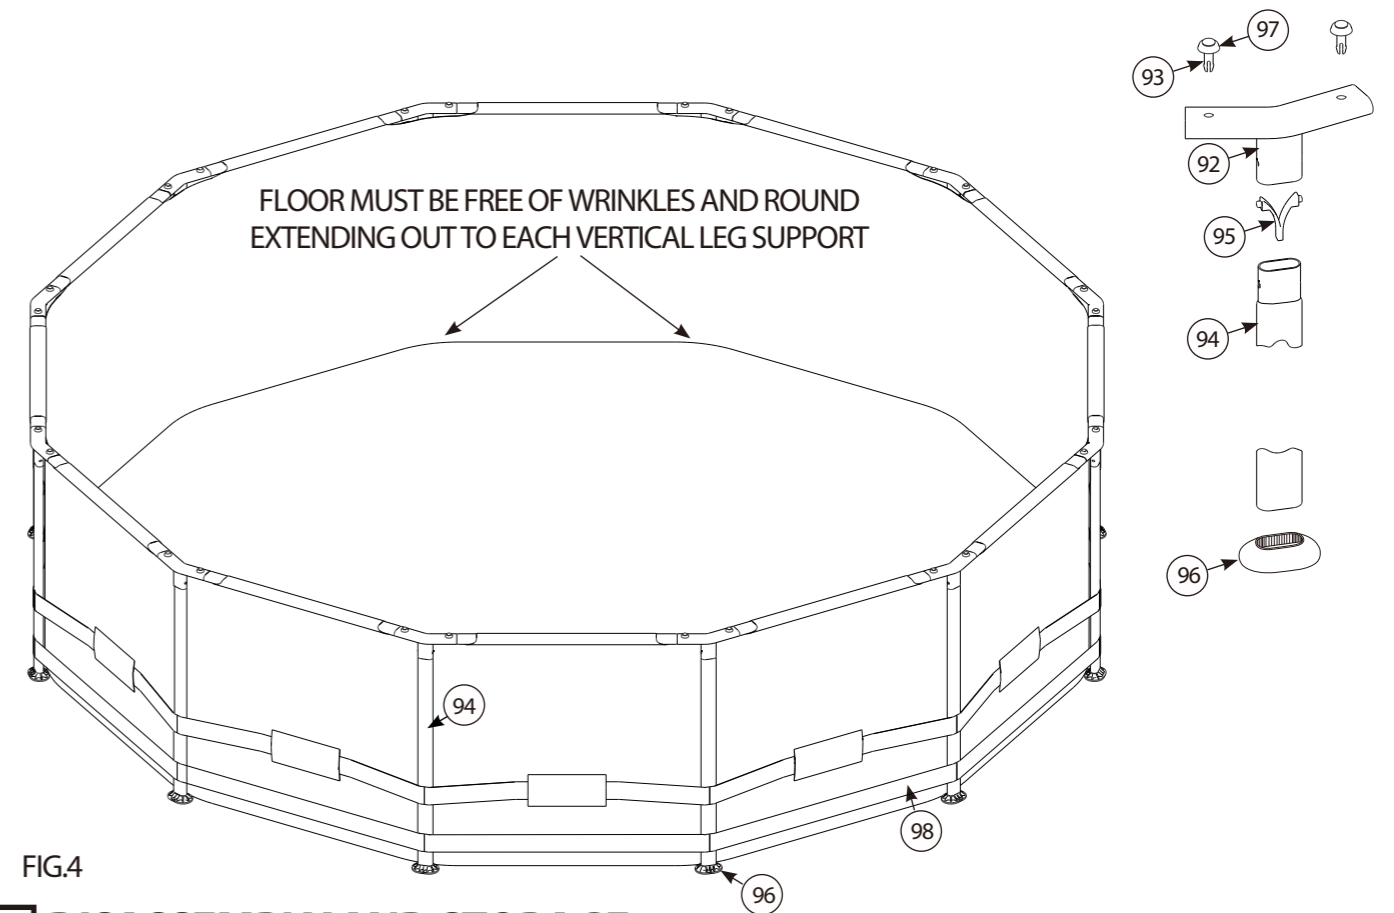

FIG.4
D. Once the top frame is assembled, locate the Vertical Legs (94). The Vertical Leg sections will have a Spring Pin (95) pre-installed at the top end. First, insert the leg down through the belt that runs around the middle of the pool, see Fig. 4. Now, to connect them into the top frame, push the buttons in as you insert the Leg up into the Tee Fitting. Look through the hole in the Fitting as you insert and rotate the pipe until the buttons align with the holes and pop out, locking the leg in place. Finally, take one of the Leg Caps (96) and insert the bottom of the Vertical Leg into it until it stops.
F. Place the Strap Ring (98) on top of pool frame and slide it all the way down to the Leg Caps (96).
NOTE: AFTER ABOUT 1-INCH OF WATER IS ON THE BOTTOM, STOP FILLING AND SMOOTH WRINKLES OUT OF THE BOTTOM OF THE POOL MAKING SURE THE POOL'S BOTTOM IS FLAT AND ROUND EQUALLY IN ALL DIRECTIONS. SEE FIG. 4 BELOW